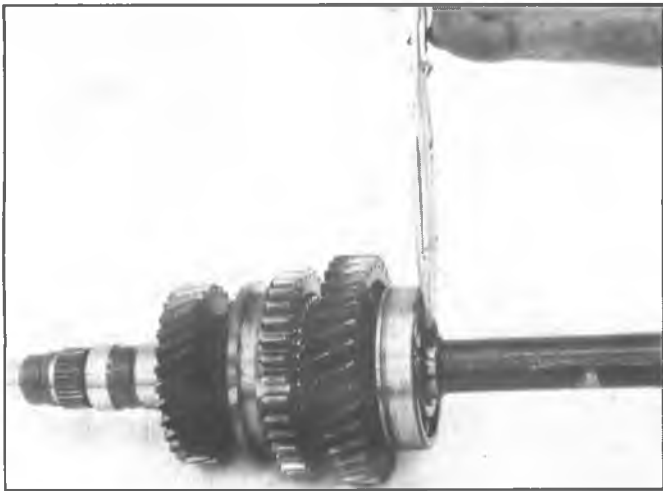

Fig. 10R--Removing/Installing Mainshaft Bearing Snap Ring
5. Remove snap ring that retains mainshaft bearing on the shaft. Refer to Fig. 10R. Remove bearing from mainshaft by inserting steel plate on the front side of 1st gear, then press mainshaft through bearing. (Be careful not to damage gear teeth).
4. Install mainshaft bearing retainer ring, followed by mainshaft rear bearing. Using an arbor and a suitable tool, drive or press bearing down into position. Install a new snap ring on shaft to secure bearing. Refer to Fig. 10R. This snap ring is a select fit for minimum end play.